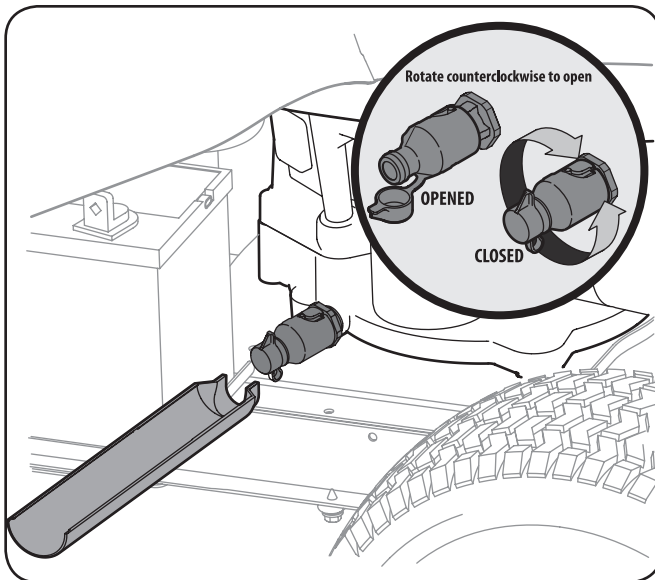

Figure 6-1
4. Snap the small end of oil drain sleeve onto the space provide around the oil drain valve. See Fig. 6-1.
5. Open the cap on the oil drain valve as shown in Fig. 6-1.